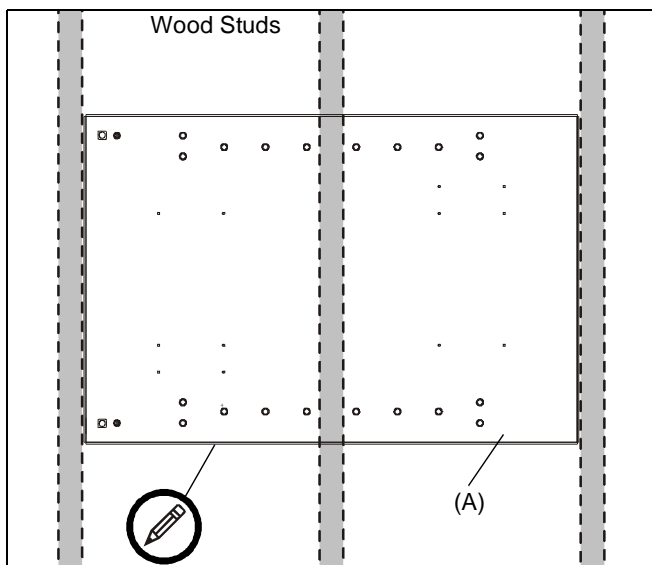

Figure 1
4. Using TA501 (A) as a template, draw pencil line completely around in-wall enclosure. (See Figure 1)